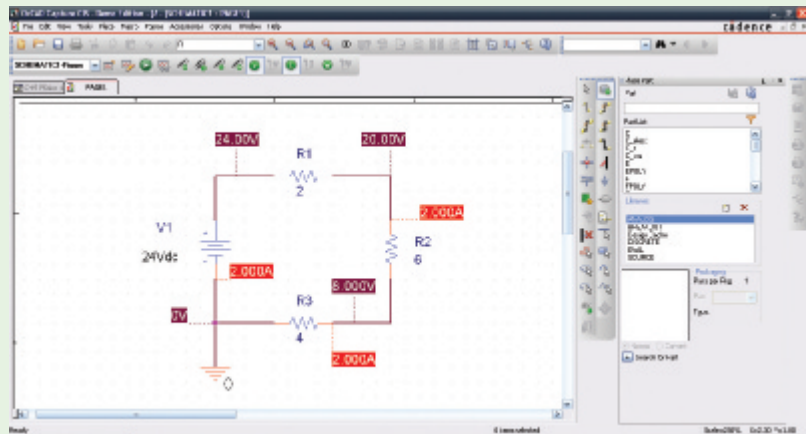

FIGURE 5-44
- You should now be in the Capture schematic editor page. Click anywhere to activate it. Build the circuit as shown in Figure 5-44. Remember to rotate the components to provide for the correct node assignments. Change the component values as required.
- Click the New Simulation Profile icon and enter a name (e.g., **Figure 5-44**) in the *Name* text box. You will need to enter the appropriate settings for this project in the *Simulation Setting* box. Click the *Analysis* tab, and select Bias Point from the *Analysis type* list. Click OK and save the document.